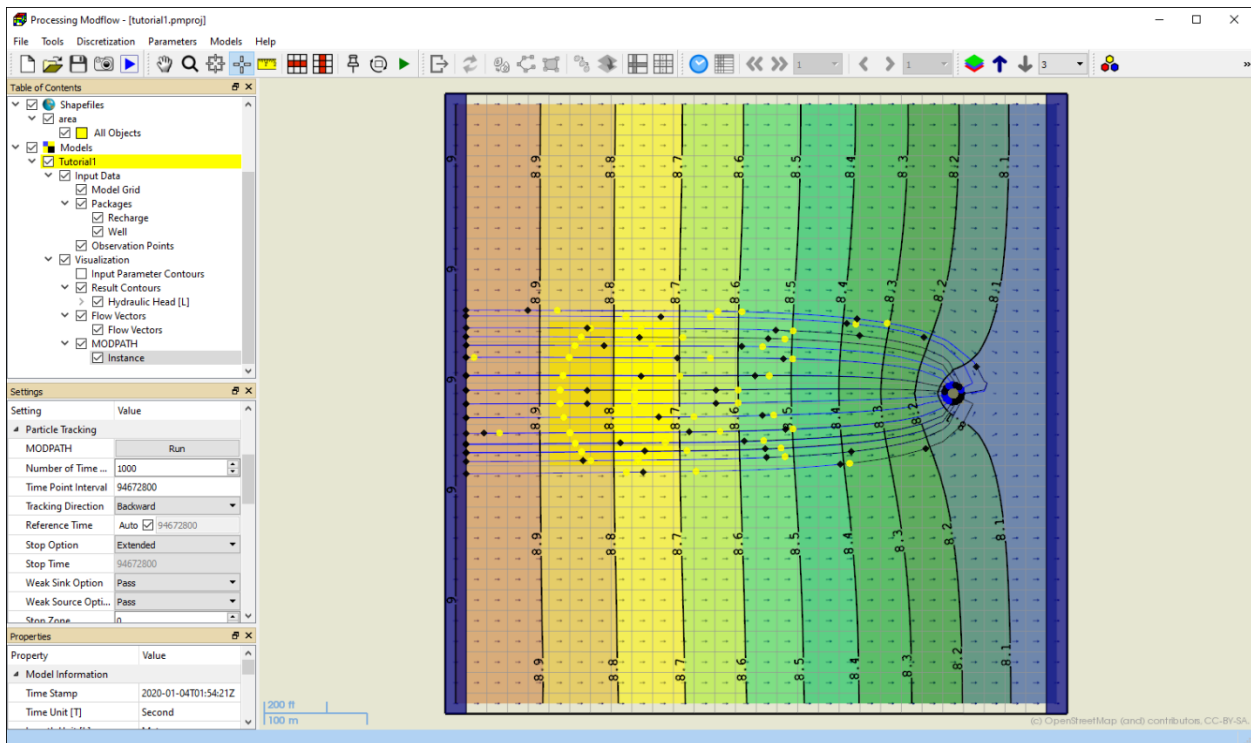

Figure 17. Projection of pathlines on the Map Viewer (backward tracking)
- Once the simulation is finished, PM will display the (projection of) pathlines on the Map Viewer (Figure 17). The black dots are the end points of pathlines. The yellow dots along pathlines are particle tracking time points with the interval defined in the settings window.